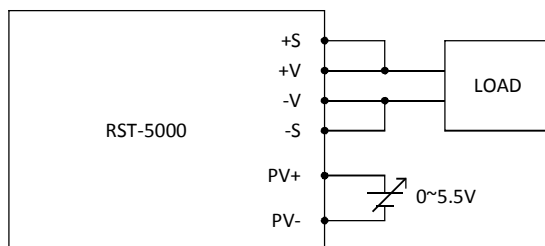

Fig 3.1
(1) Switch DIP-SW position-2 to upper position(ON) when AC power off.
(2) Connecting an external DC source between PV+ and PV- on CN313 or CN314, and +S & +V, -S & -V also need to be connected that is shown in Fig 3.1.